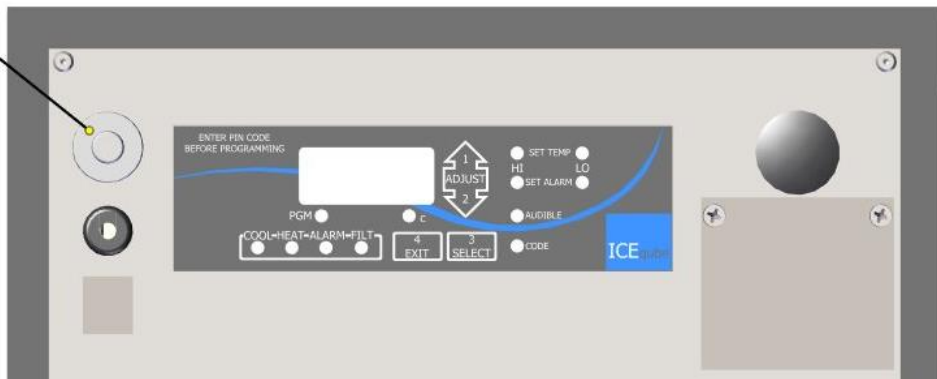

Figure 2: Push-to-Connect Fitting
3. After checking that all opening and bolt holes are in alignment, assemble and tighten the (2) 1/4"-20 or 3/8"-16 nuts and (4, 6 or 8 depending on model) 1/4"-20 x 1" bolts supplied with you Ice Qube TMS by hand. Check to ensure gasket will properly seal the Ice Qube TMS to your enclosure.
5. The **OPTIONAL** purge connector is provided as a means to purge harmful gases out of the evaporator compartment. This 1/4" (6.35MM) O.D. push-to-connect fitting is for convenience only and is **NOT REQUIRED** as a method of protection. All components are non-ignition source components and **DO NOT** require purge protection from any source. (See *Figure 2: Push-to-Connect Fitting*)